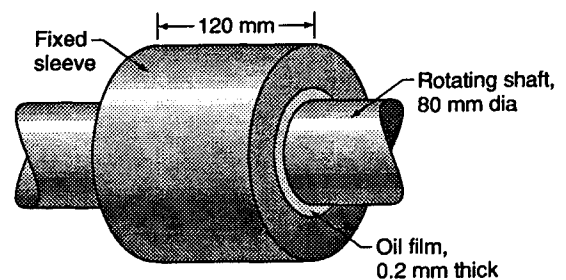

Figure X2.11.9
- 2.11.9 A journal bearing consists of an 80-mm shaft in an 80.4-mm sleeve 120 mm long, the clearance space (assumed to be uniform) being filled with SAE 30 Western lubricating oil at 40°C (Fig. X2.11.9). Calculate the rate at which heat is generated at the bearing when the shaft turns at 150 rpm. Express the answer in kN·m/s, J/s, Btu/hr, ft·lb/sec, and hp. Refer to Appendix A.